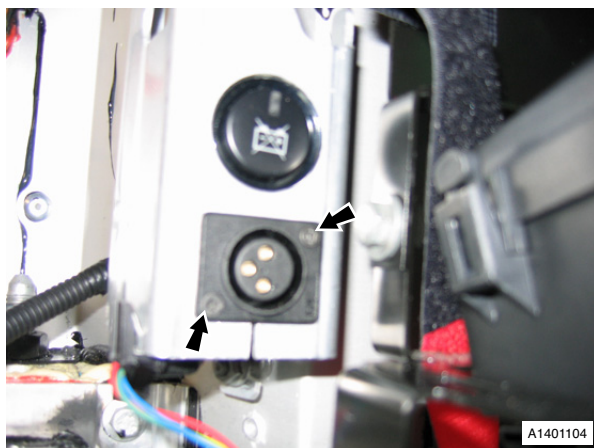

Fig. 2
10. Remove screws (x2), battery conditioner to power socket bracket. Remove battery conditioner (see Fig. 2).